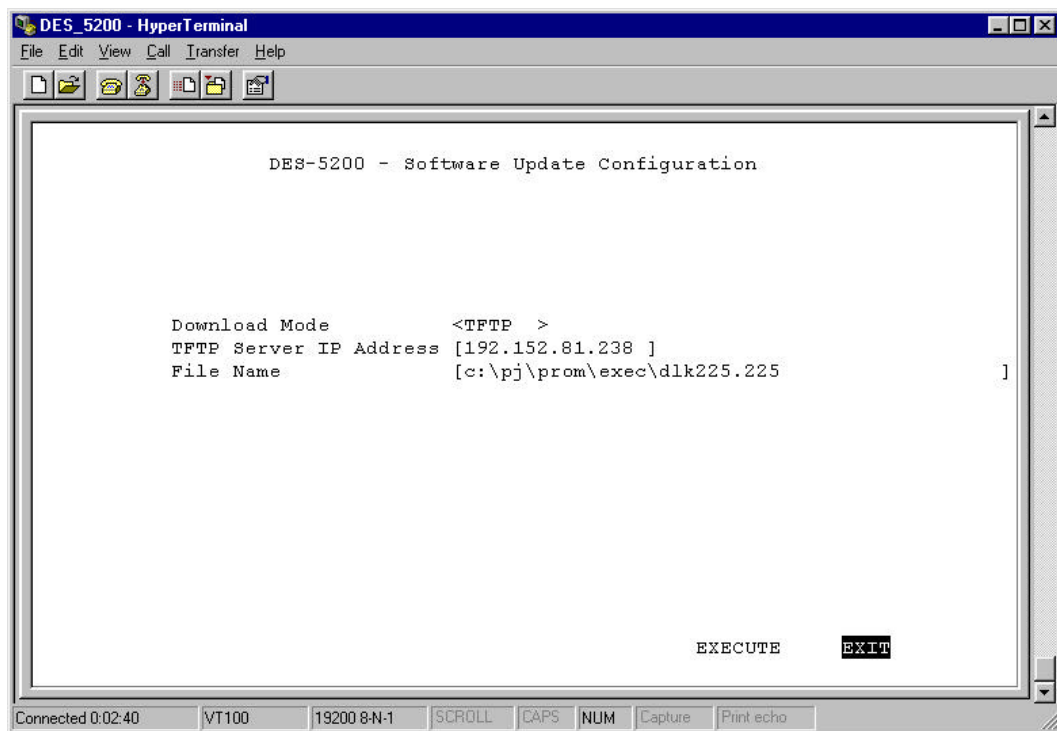

Figure 28: Software Update Confirmation
4. You will see a confirmation panel, displayed in Figure 28. If you do not want to update software select No and press Enter to return to the previous panel.